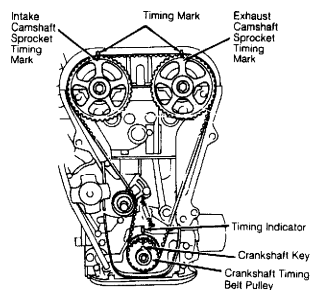

Fig. 7: Aligning Timing Belt Marks (DOHC)
3) Align all sprocket timing marks with timing marks on engine. See Fig. 7. Move timing belt tensioner up and secure. Mark timing belt for direction of rotation if belt is to be reused. Remove timing belt from sprockets.